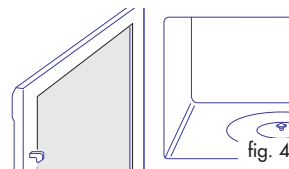

fig. 4
- 6) DO NOT remove the transparent film on the inner surface of the door (see Fig. 4).
- 7) The majority of modern electronic appliances (TV, radio, stereo systems etc) are shielded from radio frequency (RF) signals. Certain electronic appliances may not, however, be shielded from radio frequency signals deriving from a microwave oven. You should therefore keep a distance of at least 1-2 metres between these appliances and the operating oven.